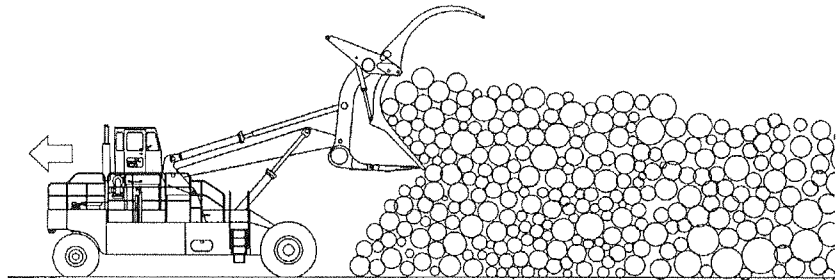

Fig 4-13
- When the required decking height is reached, push the load off with the kickoff arms and simultaneously lower the carriage and back away slowly. Keep the tines as close to the pile as possible to prevent logs from rolling down in front of the drive tires. See Fig. 4-13